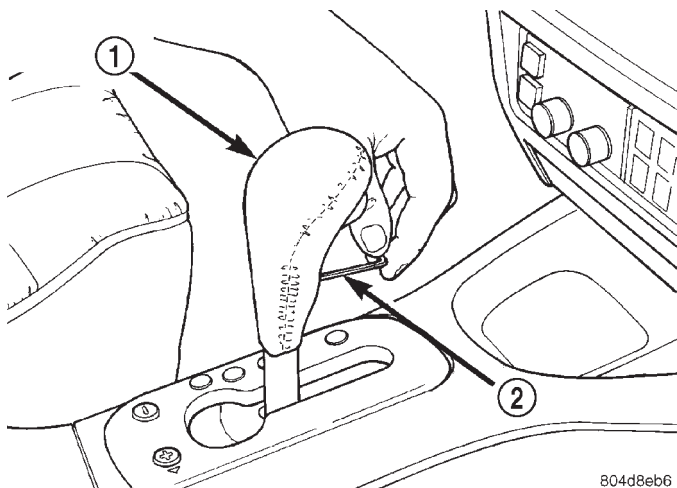

Fig. 75 Shift Handle Retaining Screw
(1) Using suitable size allen wrench, remove the gearshift knob retaining screw (Fig. 75).
(13) Install the bezel on the shifter console.
(14) Install gearshift knob (Fig. 75).